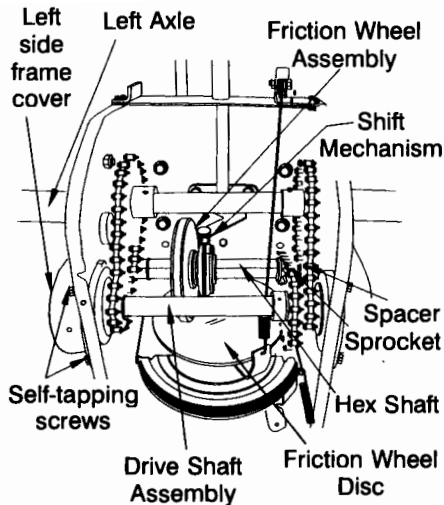

FIGURE 30
- Remove four self-tapping screws from the left side frame cover and remove the cover off the drive shaft assembly. Refer to Figure 30.
- Slide the friction wheel assembly up onto the shift mechanism as shown in Figure 30 and slide the hex (gear) shaft back into the unit.